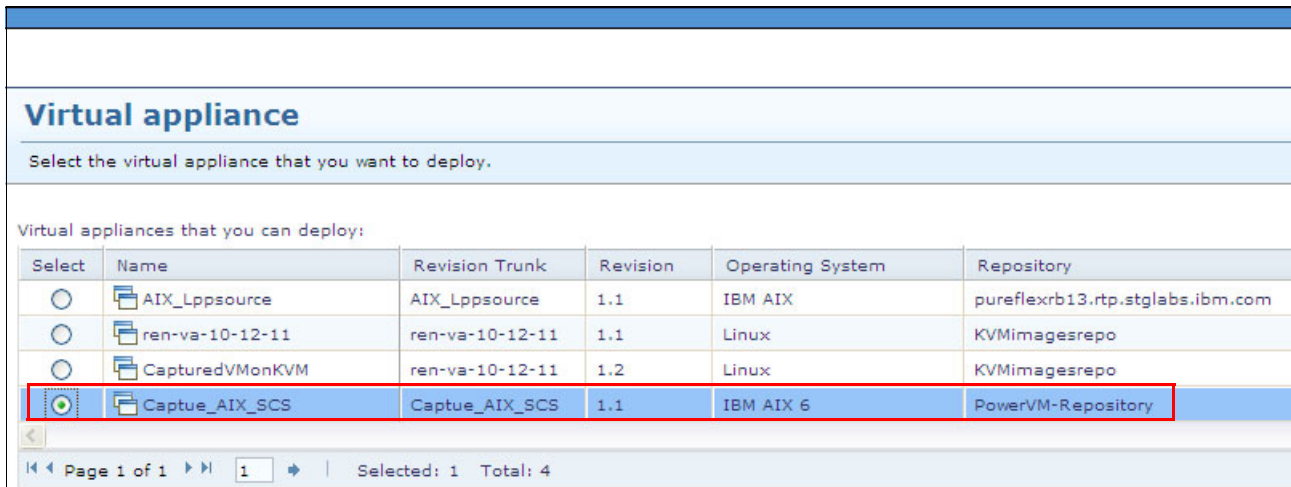

Figure 10-151 Selecting a virtual appliance
3. Select a virtual appliance as shown in Figure 10-151. Captue_AIX_SCS is an image that is created by the V7000 FlashCopy feature. Click **Next**.